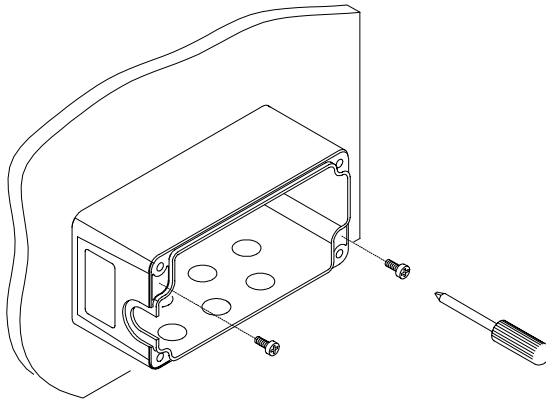

Figure 2.5 - Junction box mounting
- 2) Align the junction box and insert the two self-threading screws with their washers and screw them into the panel until tight (see Figure 2.5).